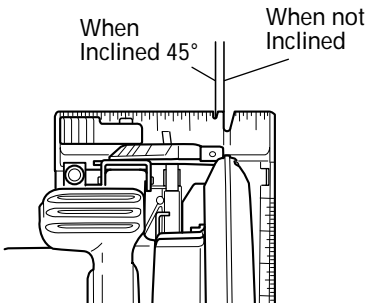

Fig. 13
1. Place the saw body (base) on the work piece, and as in Fig. 13 align the intended line of cut with the saw blade, using the notch at the front of the base. This relationship of base to work pieces should remain unchanged regardless of the inclination of the base.
4. Tilt saw forward and align the notch (Fig. 13) with the pre-marked guide line.